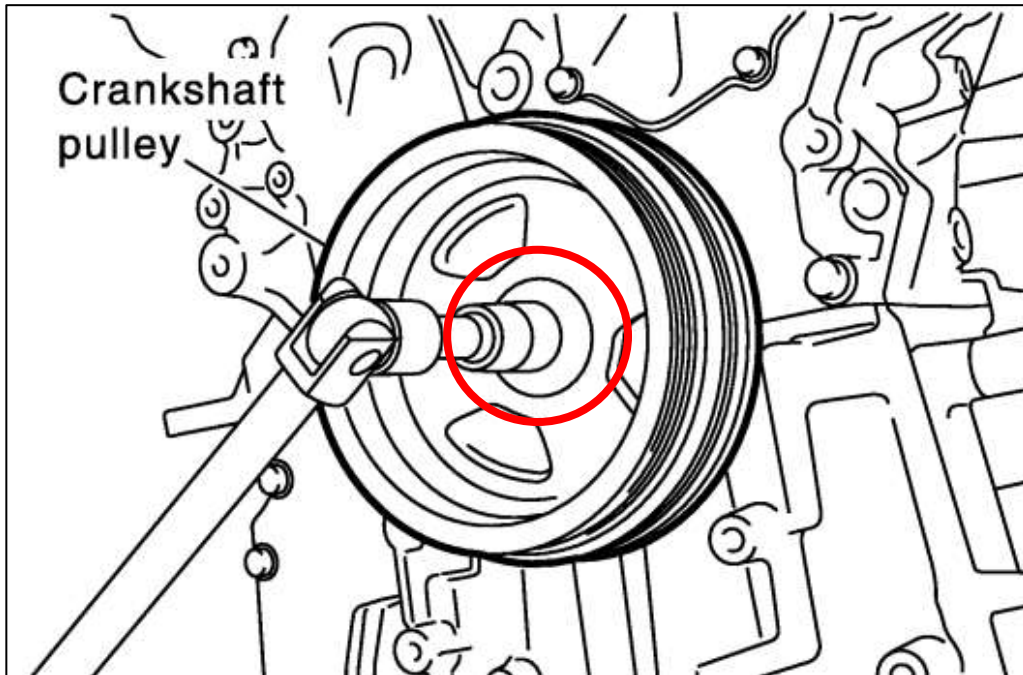

Figure 1
5. Using an Impact Gun, loosen the OE Crank Pulley bolt. *Figure 1.*